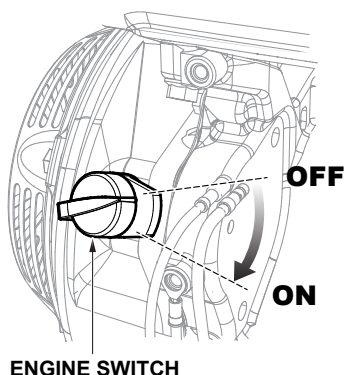

**Figure 15. Choke Lever (Closed)**
4. Place the choke lever (Figure 15) in the “**CLOSED**” position if starting a cold engine.